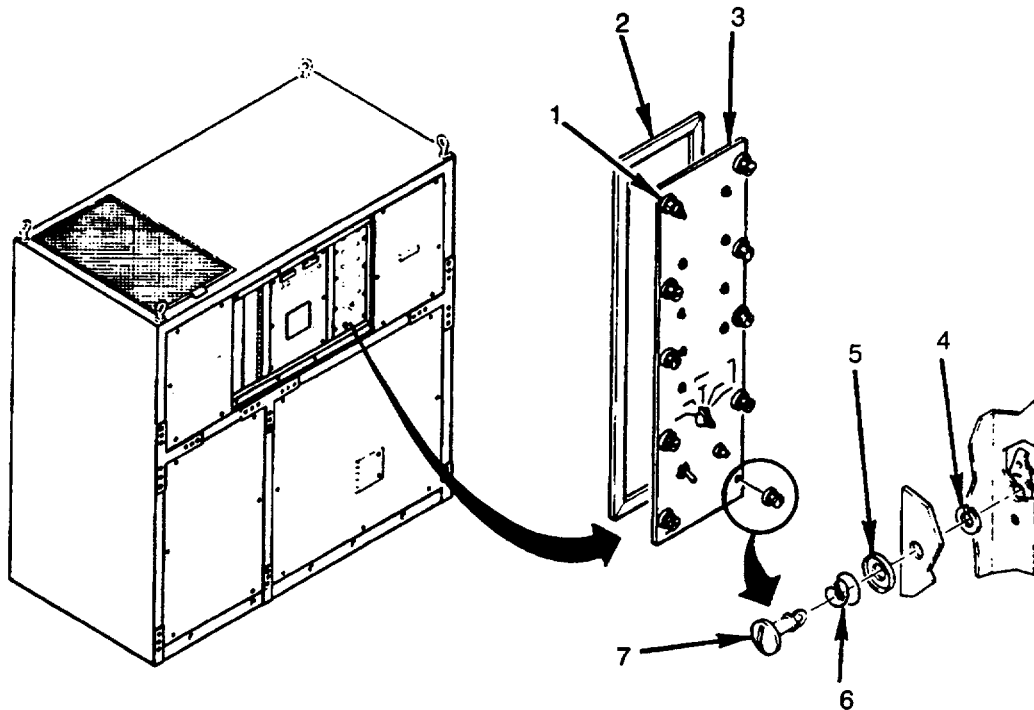

Figure 4-35. Right Electric Plate
1. Check that plate (3) is not bent, cracked, or punctured (see Figure 4-35).
2. Check that gasket (2) is not torn, loose, or missing.
3. Check that captive fasteners (1) are not damaged or missing.